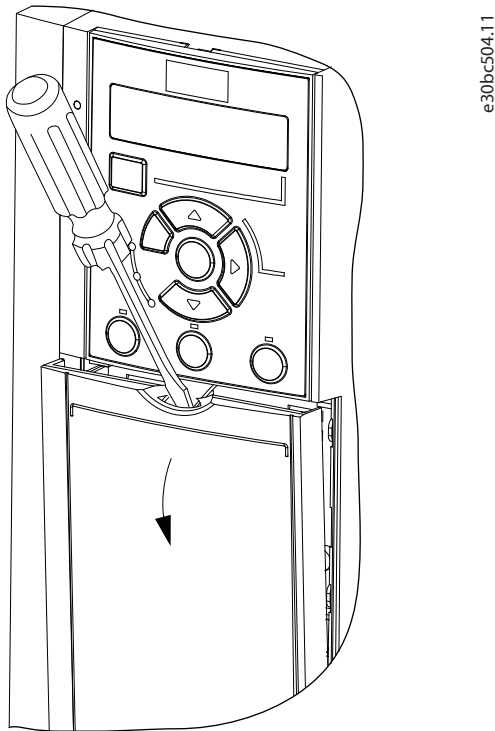

Figure 11: Control Wiring Access
- Remove the cover plate with a screwdriver. See Figure 11.